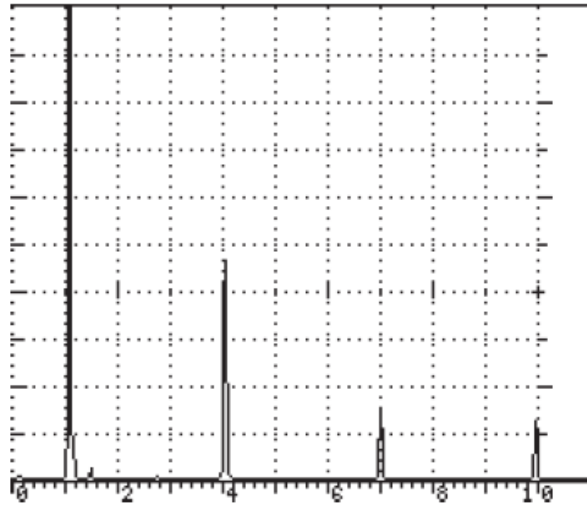

Figure 5-39: B1 Block Echoes
B1 Block: Line 1 (1 inch). See first echo in *Figure 5-39*.
- B1: Line 4 (4 inch). See echo pattern in **Figure 5-39**.